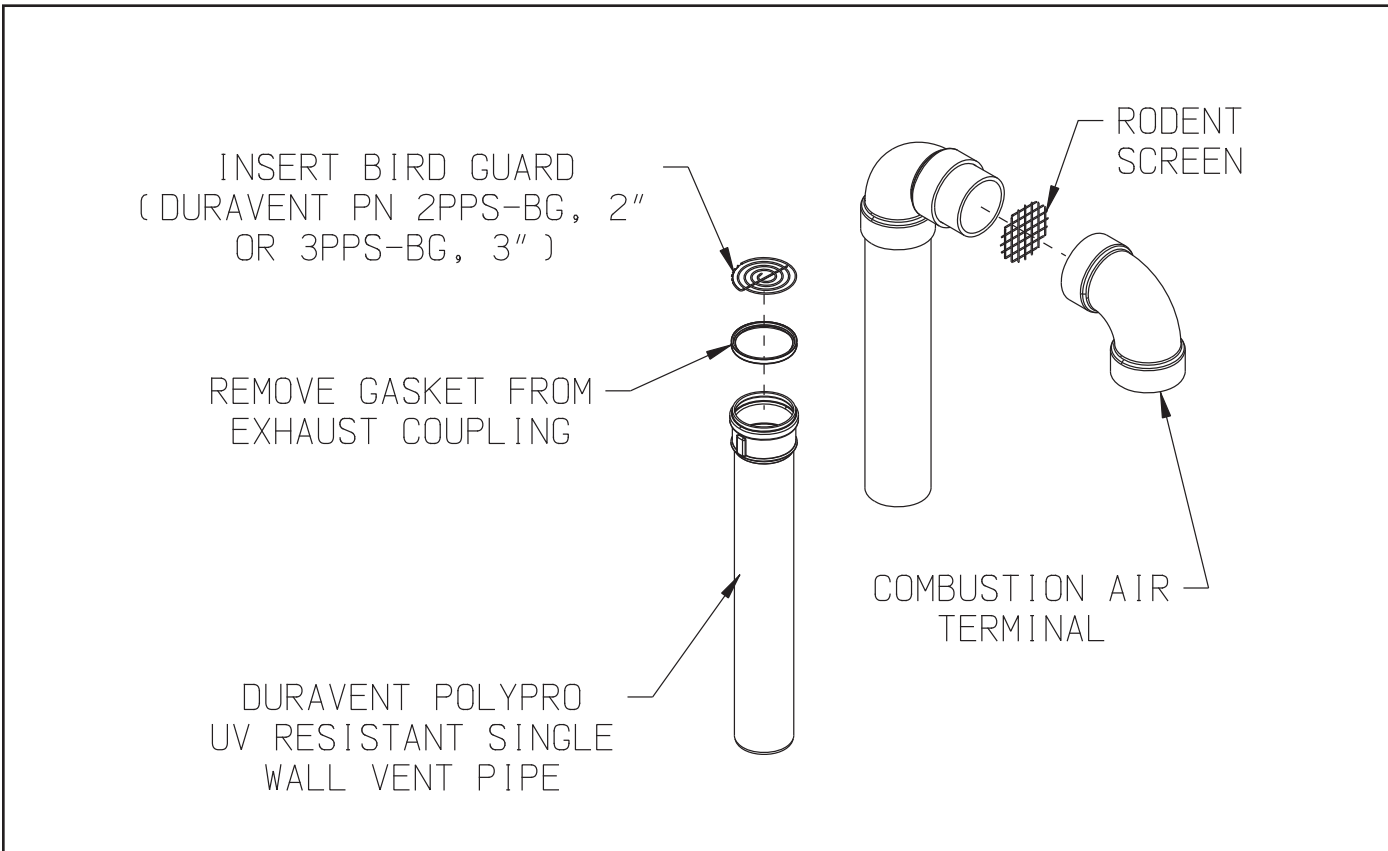

FIGURE 7.28: INSTALLATION OF DURAVENT POLYPRO UV RESISTANT SINGLE WALL VERTICAL TERMINAL
- a. See Figure 7.28 for the proper orientation of twin pipe vertical terminals.
- c. A 180° bend (or two 90° elbows) are installed on the top of the air intake pipe. If two 90° elbows are used, the rodent screen provided can be installed between them (Figure 7.28). If a 180° bend is used, install the rodent screen in the open side of the bend, using a ring made of PVC pipe. If desired, the termination fittings can be attached to the end of the intake pipes with field supplied stainless steel screws so that they can be later removed for cleaning and inspection. If this is done, drill a clearance hole in these fittings and a tap hole in the end of the intake pipes to accept these screws.